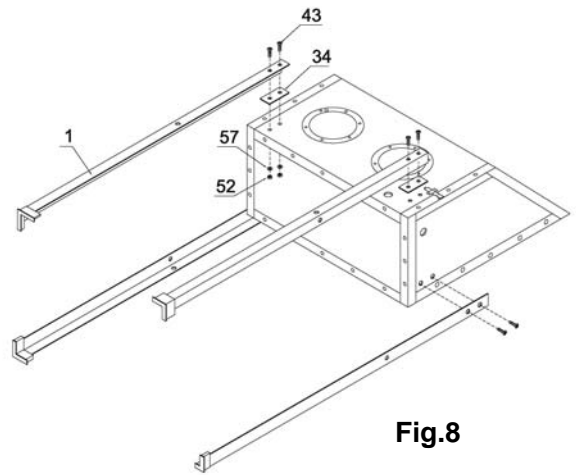

Fig.8
Step 8 – Legs Assembly see Figure 8